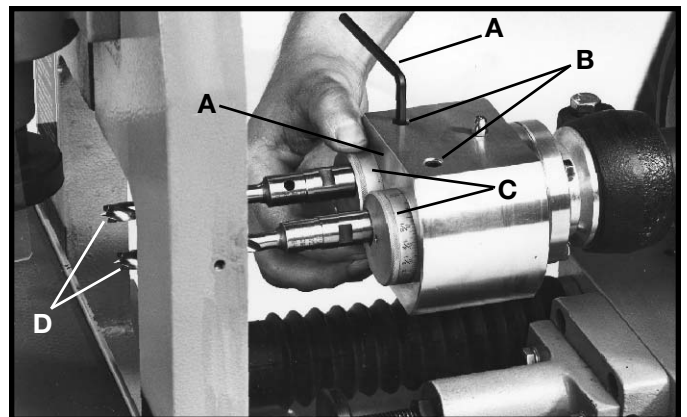

Fig. 17
2. With allen wrench (A) Fig. 17, supplied, loosen two set screws (B).
3. Rotate two cylinders (C) Fig. 17, to the desired center distance between drill bits (D). **NOTE:** There are witness lines on the face of the boring head (E) to indicate the desired distance between drill bits. **NOTE:** Center drilling capacity of supplied boring head is 3/4" to 3".
4. Tighten set screws (B) Fig. 17, after setting center distance.